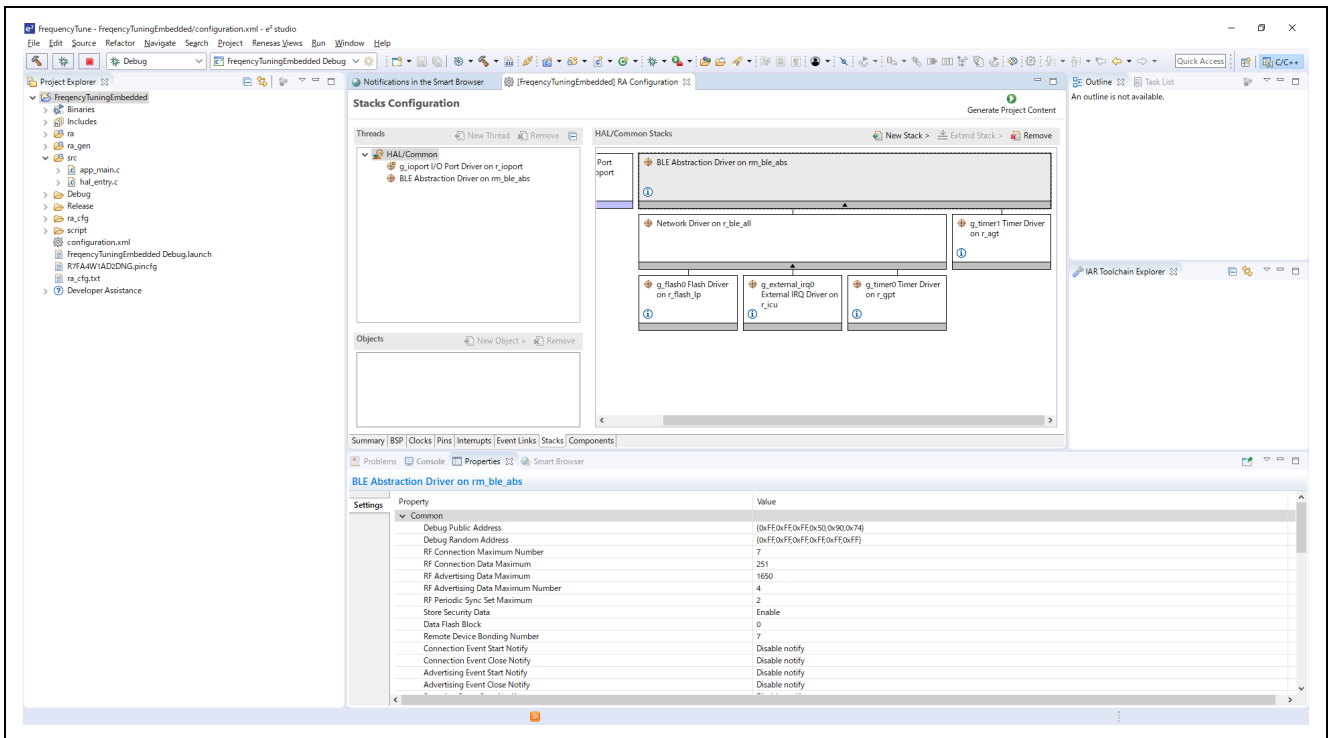

Figure 6-9. Properties of “rm_ble_abs”
11. Click “BLE Abstraction Driver on rm_ble_abs” and select “Properties” Tab (Figure 6-9)